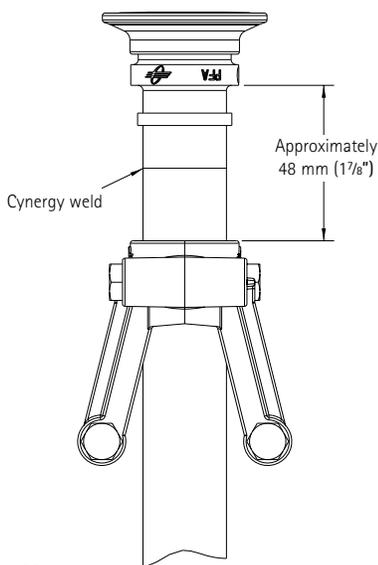

Figure 20
2. Using two 1/4"-20 bolts as called out in Table 23, install one set of Cynergy tube clamps at each end of the tubing section at a location 17/8" inches from the Cynergy fitting shoulder (see Figure 20). Do not clamp over the Cynergy weld.